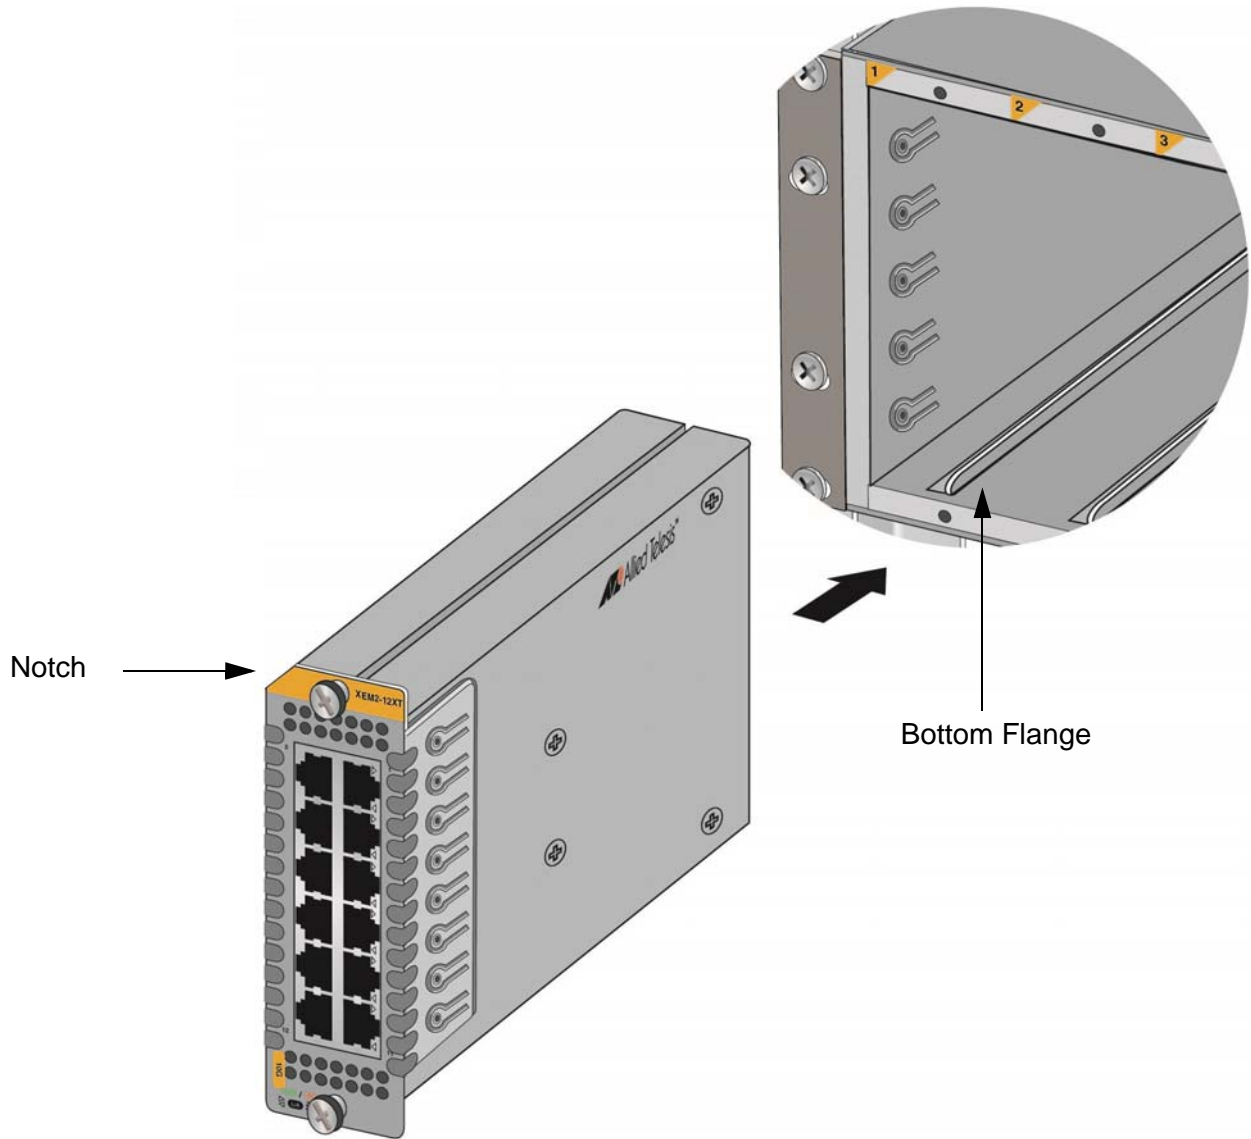

Figure 38. Sliding the Ethernet Line Card into the Slot
4. Position the line card with the notch on the faceplate in the upper left corner, as shown in Figure 38 on page 71 and carefully slide it into the slot. The slot in the chassis has top and bottom flanges that fit into grooves on the top and bottom of the card.